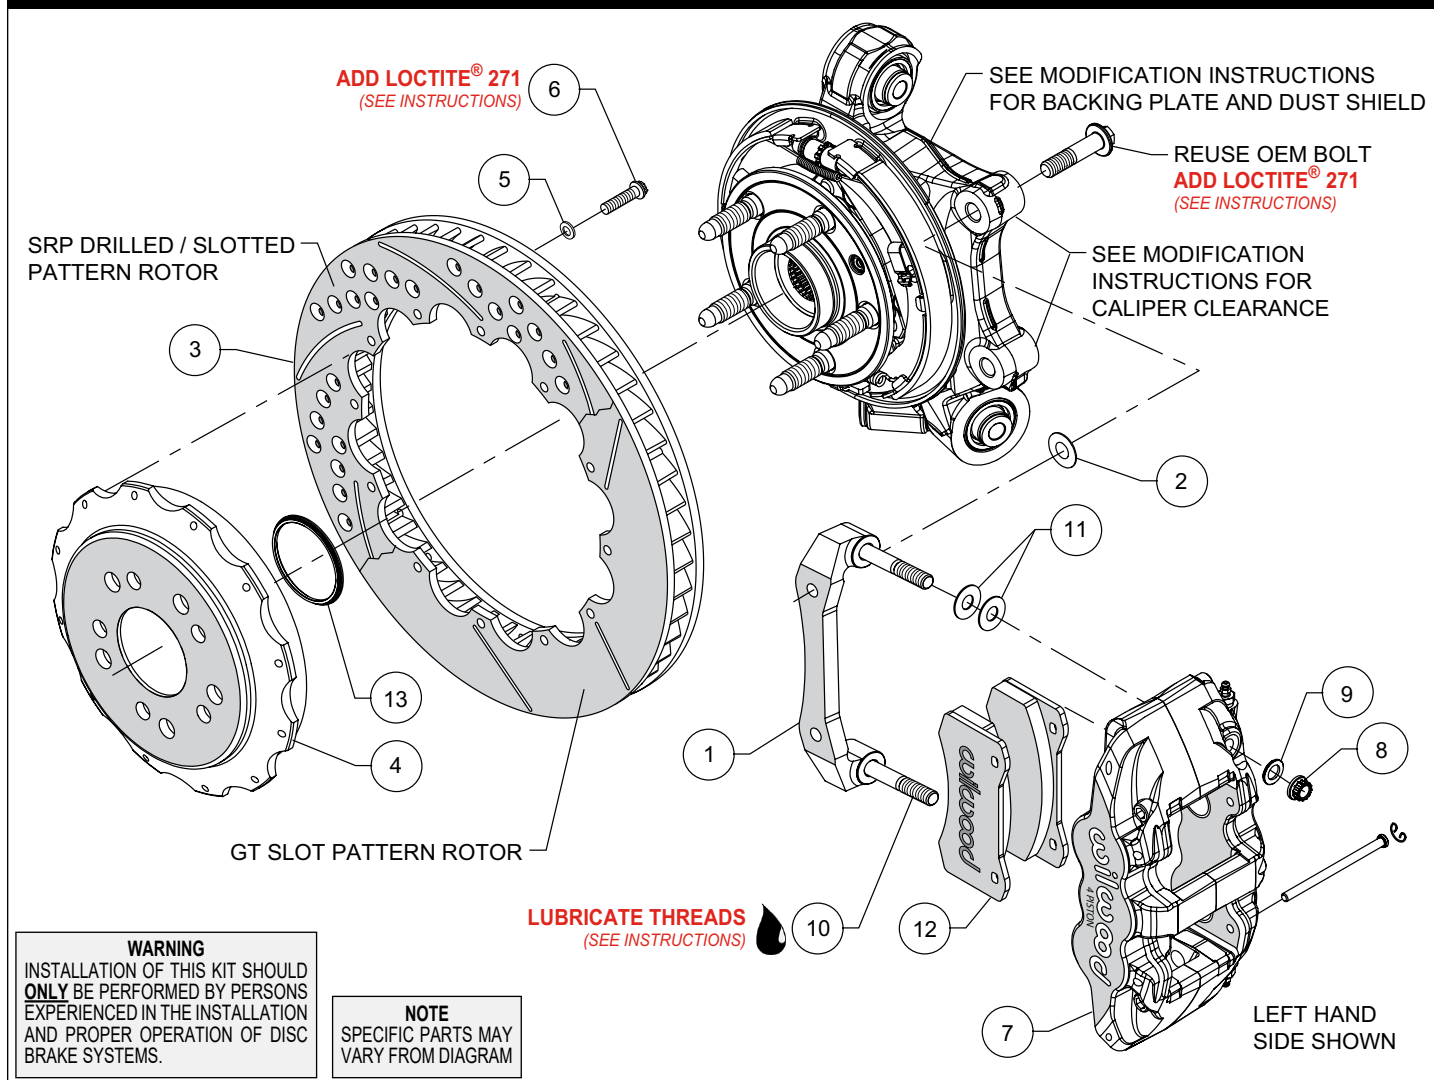
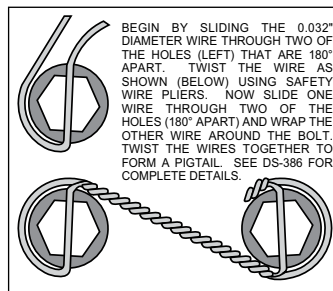

Figure 1. Typical Installation Configuration
Figure 4. Safety Wire Diagram
Assembly Instructions (numbers in parenthesis refer to the parts list and Figure 1 on the preceding pages):
- The caliper mount bracket (1) should initially be installed with clean, dry threads on the mounting bolts. Orient the bracket as shown in Figure 1 and install using the saved OEM caliper mount bolts. Initially place one .033" thick shim (2), on each bolt between the bracket and upright, Figure 1 and Photo 1. Temporarily tighten the mounting bolts. **NOTE:** The bracket must fit squarely against the mount bosses on the upright. Inspect for interference from casting irregularities, machining ridges, burrs, etc. Later, after the caliper alignment has been checked, the mount bolts will be secured using red *Loctite*® 271.
- Orient the rotor (3) and the hat (4) as shown in Figure 1 and Photo 2. Attach rotor to hat using bolts (6) and washers (5). Apply red *Loctite*® 271 to the bolt threads and torque to 140 in-lb using a criss-cross pattern. For an added measure of security, the bolts may be safety wired using standard 0.032 inch diameter stainless steel safety wire as shown in Figure 4. Please refer to Wilwood's data sheet DS-386 (available at www.wilwood.com/Pdf/DataSheets/ds386.pdf) for complete safety wire installation instructions.
- Slide the rotor registration adapter (13) onto the axle register on the axle hub with the smaller O.D. facing outward, Photo 3. Align the correct hole pattern in the hat with the stud pattern on the axle hub and slide into place, Figure 1. **NOTE:** The hat must fit flush against the axle hub flange or excessive rotor run out may result. Install three lug nuts (finger tight) to keep the hat/rotor assembly in place while continuing with the installation. **CAUTION:** Some vehicles have long OEM caliper mount bolts
- Lubricate the caliper mounting studs (10) with lightweight oil. Initially place two .030" thick shims (11) on each stud between the caliper and the bracket, as shown in Figure 1 and Photo 4. Mount the caliper (7) onto the bracket (1) using lock nuts (8) and washers (9), Figure 1. Temporarily tighten the lock nuts and view the rotor through the top opening of the caliper. The rotor should be centered in the caliper, Photo 5. If not, adjust by adding or subtracting shims (2) between the bracket and the upright. Always use the same amount of shims on each of the two mounting bolts. Once the caliper alignment is correct, remove the bracket mounting bolts one at a time, apply red *Loctite*® 271 to the threads, and torque to 65 ft-lb.
- Remove the two pad retaining pins from the caliper (7) by carefully popping out the pin retaining clips and sliding out the pins. Insert the brake pads (12) into the caliper from the bottom, Figure 1 and Photo 6. With the friction material facing the rotor, secure the brake pads in place with the pad retaining pins and clips, Photo 7. Reinstall the caliper onto the caliper mounting bracket and temporarily tighten the lock nuts. Check that the top of the brake pad is flush with the outside diameter of the rotor, Photo 8. If not, adjust by adding or subtracting shims (11) between the caliper and the bracket. After the caliper pad height is set, torque the caliper lock nuts (8) to 47 ft-lb.